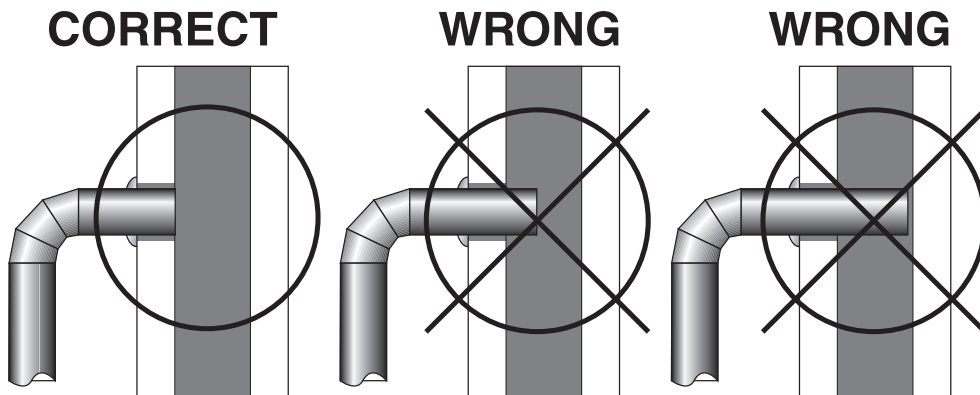

Figure 8 – Stovepipe/Flue Connections
1. The crimped end of the stovepipe fits inside the stove flue collar. Secure with three (3) equally spaced sheet metal screws. The first section of connector pipe must be single walled to properly attach to the stove collar. Install additional pipe and elbow with the crimped end towards the stove. This will allow any condensation in the flue to run back into the firebox.
4. The pipe cannot extend into the chimney flue (figure 8).
5. Secure all pipe/elbow sections with three (3) equally spaced sheet metal screws at each joint to make the piping rigid. **DO NOT CONNECT THIS STOVE TO ANY AIR DISTRIBUTION DUCT OR SYSTEM.**
6. It is recommended that no more than two (2) 90° bends be used in the stovepipe installation. The use of more than two 90° bends may decrease the amount of draw and possibly cause smoke spillage. Where possible, use only corrugated (non adjustable) elbows. These provide a better seal.
7. The connector pipe must not pass through an attic or roof space, trusses, closet, or any concealed space, floor, ceiling, wall, or combustible construction. (See Chimney Connector Systems & Clearances, page 13.) A manufactured chimney system listed to UL 103 HT (US)/ULC-S629 (CDN) must be used from the first penetration of ceiling or wall to the chimney cap. Where passage through a wall or partition of combustible construction is desired, the installation shall conform to NFPA 211 (USA) or CAN/CSA-B365 (Canada).
4. Install the stovepipe into the thimble as far as possible without extending past the flue lining (see figures 8 & 10 on pages 9 & 11).